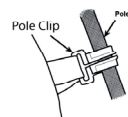
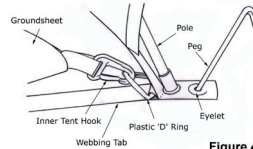

Figure 3
Figure 4
6. Between the ends of the pole sleeves and the eyelets in the webbing there are pole clips, these should be attached to the poles (see figure 3).
8. Gather up the inner tents, ensuring that their doors are closed, and take them inside the flysheet. They fit to the rear of the tent, side by side. The correct location is indicated by colour coded elastic on the hanging points and coloured tabs by the eyelets (see figure 3 below). Start at the rear edge of the inners and attach the hooks that are on the corners of its groundsheet to the "D" rings located on the main groundsheet (see figure 4).